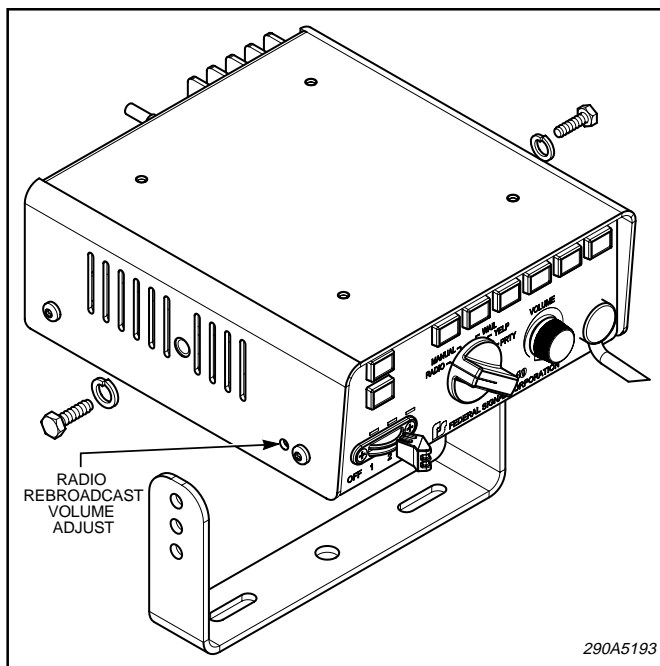

Figure 4-1.
The unit should be mounted in a position that is both comfortable and convenient to the operator. The mounting position must allow the vehicle, controls, and microphone to be operated safely at all times. Keep visibility and accessibility of controls in mind. To install the unit using the bracket, determine the mounting location and proceed as follows (see figure 4-1).
C. Secure the mounting bracket to the surface with (2 each) 1/4-20 x 3/4 hex head screws, 1/4 split lockwashers and 1/4-20 hex nuts as shown in figure 4-1. The unit will be secured to the mounting bracket after wiring is completed.
After the unit is completely installed in the vehicle, set the siren function selector switch to **RADIO**. First, adjust the radio receiver volume for a comfortable listening level inside the vehicle. Next, stand outside of the vehicle and note the radio rebroadcast loudness. If the sound volume is too loud or too soft, adjust the radio rebroadcast level control through the hole on the side of the siren (see figure 4-1) to the desired sound level.
To avoid damage to the unit, the **BLACK** 1/4-20 x 7/16 hex head cap screws and the 1/4 split lockwashers **MUST** be used as shown in figure 4-1.